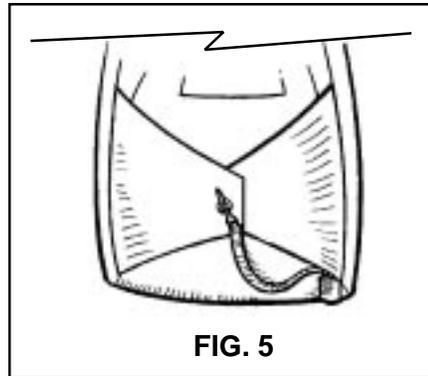

FIG. 5
3. Tuck about 12 inches of bridle under the right flap being sure to make it snag proof and secure (**FIG. 5**).
5. Close the left side flap then the right side flap. Secure the closing loop with the pin (FIG. 5).